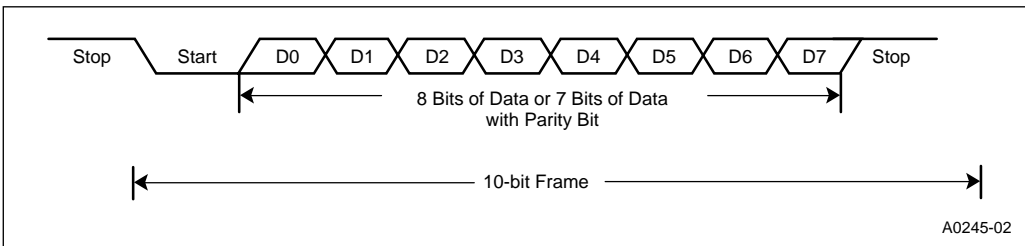

Figure 8-4. Serial Port Frames for Mode 1
Mode 1 is the standard asynchronous communications mode with optional parity. If parity is enabled, the receiver checks for even or odd parity, and the transmitter sends data with even or odd parity. When parity is disabled, the data frame used in this mode (Figure 8-4) consists of ten bits: a start bit (0), eight data bits (LSB first), and a stop bit (1). When parity is enabled, the eighth data bit becomes the parity bit; therefore, the data frame consists of a start bit (0), seven data bits (LSB first), a parity bit, and a stop bit (1).